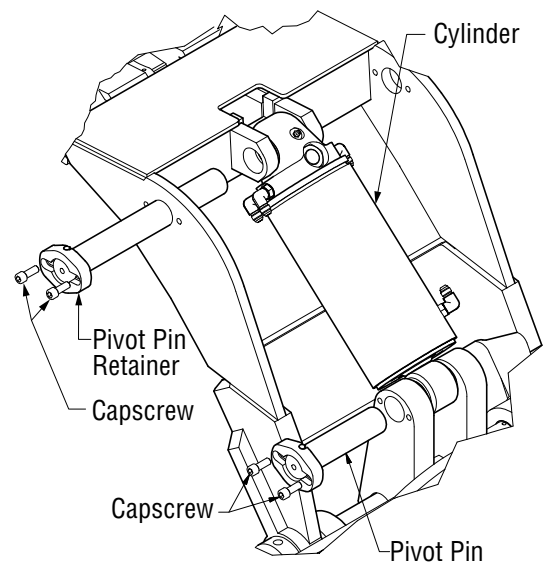

Figure 5-35, Pivot Pin Retainers
3. Remove the pivot pin retainers and cylinder. (Figure 5-35)